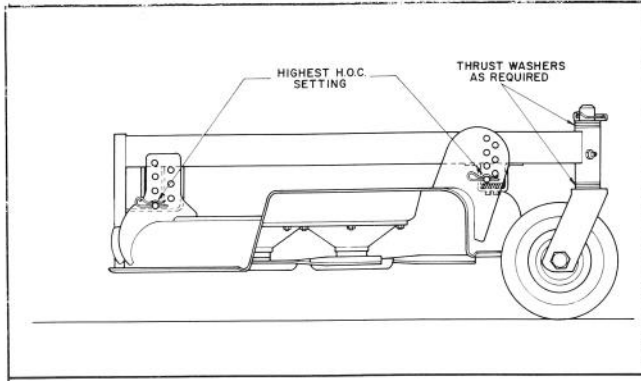

Figure 23
2. Check to make sure front height-of-cut pins are resting properly on frame cushions (Fig. 23). If pins are not resting properly, place a shim or shims under cushion to raise it for proper alignment.
3. Raise height-of-cut to 4 in. (102 mm) position (Fig. 23); refer to Adjusting Height-Of-Cut, page 8.
- A. Cutting units usually operated at 1 to 2 in. (25 to 51 mm) height-of-cut should have the low side of the cutting unit raised. Remove the lynch pin securing castor wheel on low end (Fig. 23) and remove castor assembly.
- B. Transfer one thrust washer from top side of castor shaft to lower side, install castor assembly and compare blade height of all blades; refer to items 3 through 6. Continue adding thrust washers if height still does not meet requirements.
- C. If cutting unit is operated at 2 to 4 in. (51 to 102 mm) height-of-cut, lower the high side of cutting unit. Remove lynch pin of castor at high end of unit and remove castor assembly (Fig. 23).
- D. Transfer one thrust washer from lower side of castor shaft to top side, install assembly and compare blade height of all blades; refer to items 3 through 6. Repeat procedure if height still does not meet requirements.